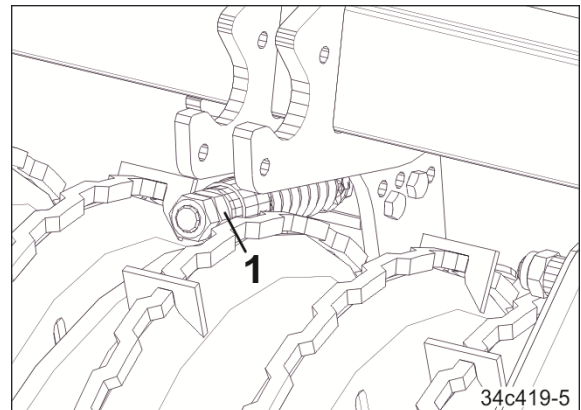

Fig. 166
2. Turn the hexagon nut (Fig. 166/1) on the spring package until the ends of the blades are flush again with the edges of the roller. Lock the hexagon nut.